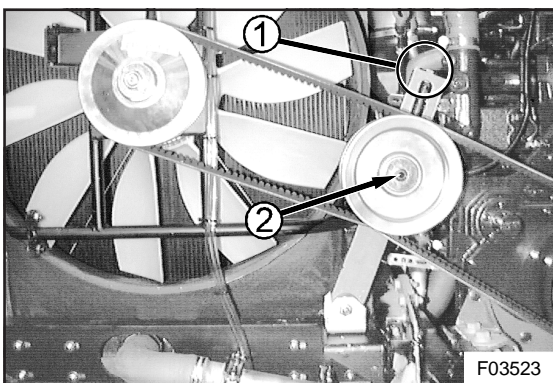

Figure 8: Engine to fan drive belt tensioner
10. In the engine compartment, slacken the fan drive belts by loosening the idler pulley hub nut (2, Figure 8) first, then by turning the hexagon head (1, Figure 8) of the threaded adjusting rod counter-clockwise to reduce tension. Remove the fan belts.